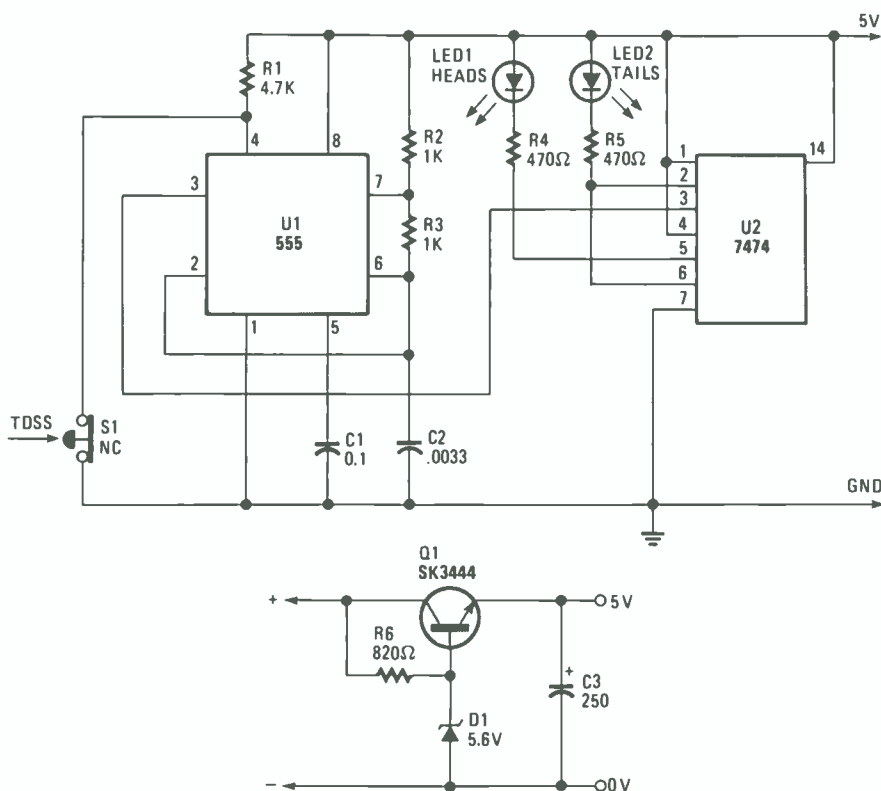

Fig. 5—The Coin Tosser consists of a 555 oscillator/timer feeding a 7474 dual J-K master/slave flip-flop that's configured as a divide-by-two counter.
**Coin Tosser.** Sure, you could sit there flicking a coin into the air then catching it and slapping it on your wrist—that's the traditional way. But this is an age where we live on the cutting edge of technology. The box in which the circuit is built has a pair of LED's labelled HEADS and TAILS. There's also a push-button switch (see Fig. 5) labelled TOS. When you press the TOS button, one of the two lights randomly lights, indicating heads or tails.